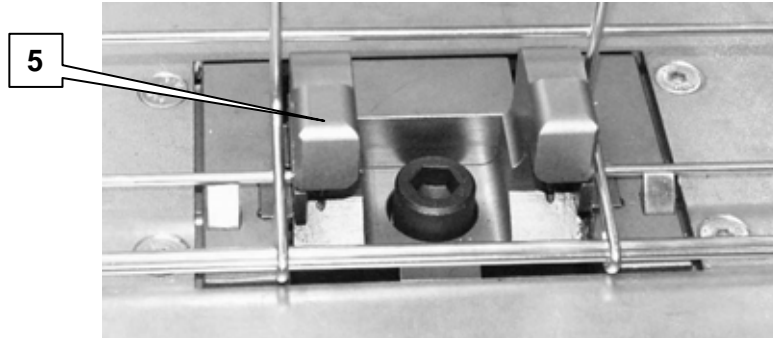

Fig. 4.22 – Shear lifting
7. press, with your foot, the control pedal and keep it pressed until the shear is completely lifted up **5** (fig. 4.22);